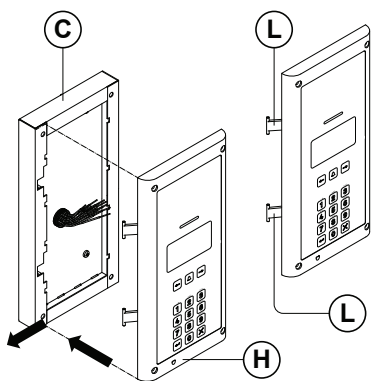
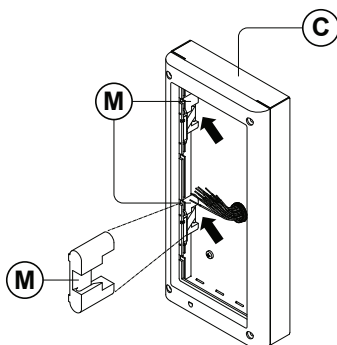

Fig. 53
Fig. 54
5. Next take the frame's hinges **(L)** and hook the module support frame **(H)** to the surface box **(C)** , starting from the left following the guide arrows, as shown in **Fig.53**. Ensure that the frame's hinges **(L)** (**Fig.53**) fit inside the relevant hinge mounts **(M)** inside the surface box **(C)** , following the guide arrows, as shown in **Fig.54**;